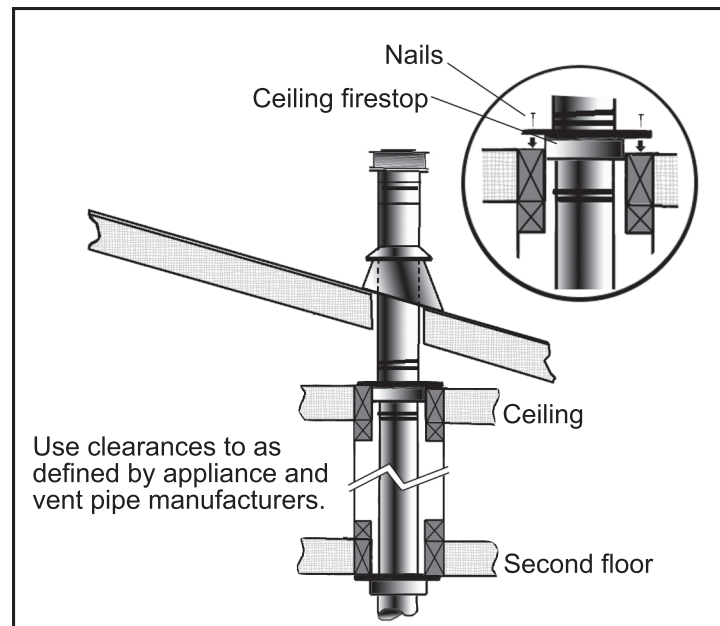

**Figure 37: Use of Wall Straps.**
- (1) If an offset is necessary in the attic to avoid obstructions, it is important to support the vent pipe every 3 feet (914 mm), to avoid excessive stress on the elbows, and possible separation. Wall straps are available for this purpose (see Figure 37).
- (2) When ever possible, use 45° degree elbows instead of 90° degree elbows. The 45° degree elbow offers less restriction to the flow of flue gases and intake air.